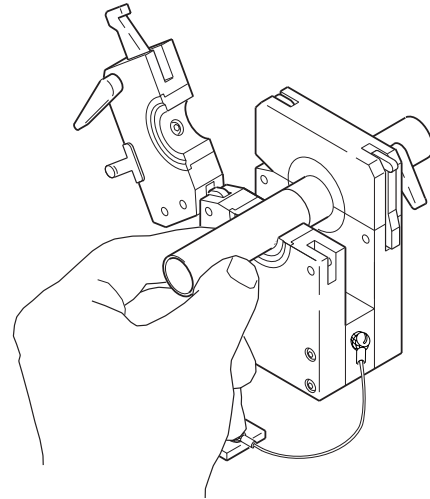

Figure 16 *Placing Second Work Piece*
5. Butt the second work piece against the first work piece, and lock down the top side plate. See Figure 16.